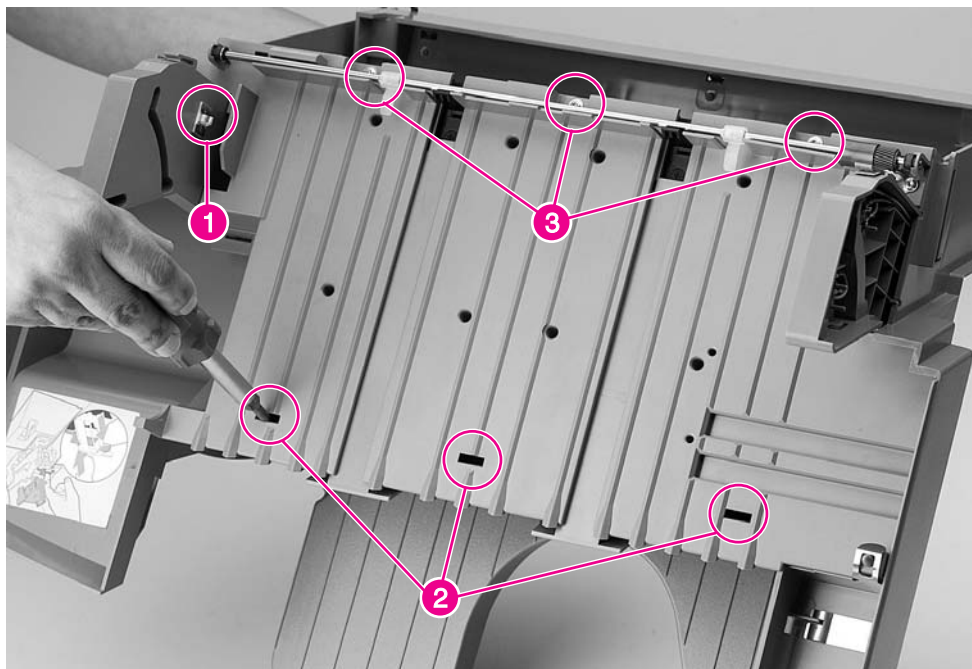

Figure 6-188 Stapler Bed Assembly
- 3 Remove the Stapler Unit Controller PCA (see figure 6-188 on page 425, callout 1).
- 7 Insert a flat-blade screwdriver into the top of the Stapler Bed Assembly and push gently to release the latches in the front of the stapler bed (see figure 6-188 on page 425, callout 2).
- 8 Remove 3 Torx screws that join the stapler bed with the rest of the unit (see figure 6-188 on page 425, callout 3).
- 3 Remove the Stapler Bed Assembly (see figure 6-188 on page 425).